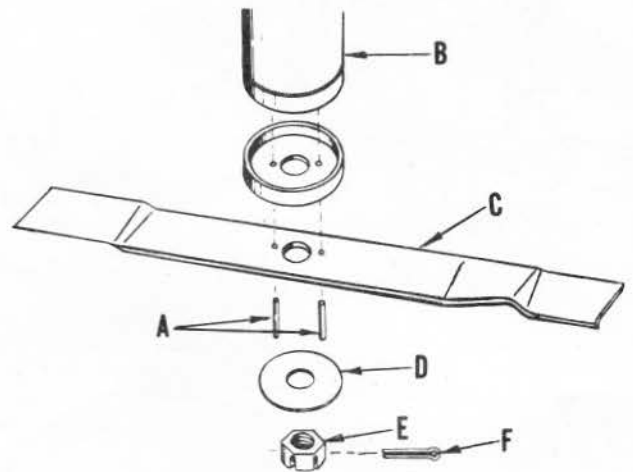

FIG. 12
Refer to Fig. 12. There are two pins (A), in each mandrel shaft (B), which fit into the holes of each Mower blade (C). These pins (A), prevent the blade from turning on the shaft under extremely heavy cutting. When blades are replaced, be sure that these pins are positioned into holes of blade and that concave side of spring washer (D), is placed next to blade. Tighten hex nut (E), securely. Insert and spread cotter pin (F). Check blades occasionally to make sure nuts and blades are tight. Always replace blades with ones that are sharp and balanced. Dull blades bruise or split ends of freshly cut grass. Blades out of balance will cause excessive vibration. If excessive vibration occurs, stop Mower and tractor immediately; check and correct the cause.